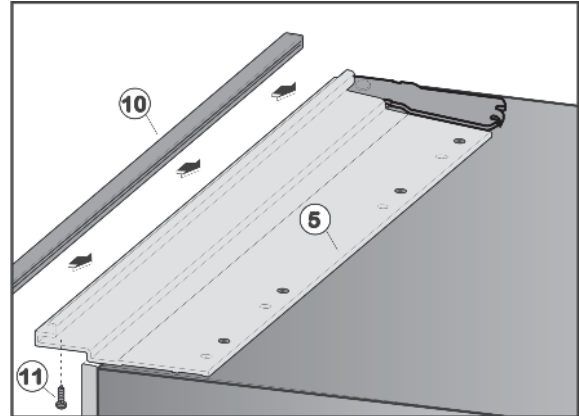

Fig. 32
- ▶ Position end strip Fig. 32 (10) over the installation contour Fig. 32 (5) and align it such that the holes in ventilation grille and installation contour are above each other.
- ▶ Screw end strip Fig. 32 (10) to installation contour Fig. 32 (5) from below using three screws Fig. 32 (11).